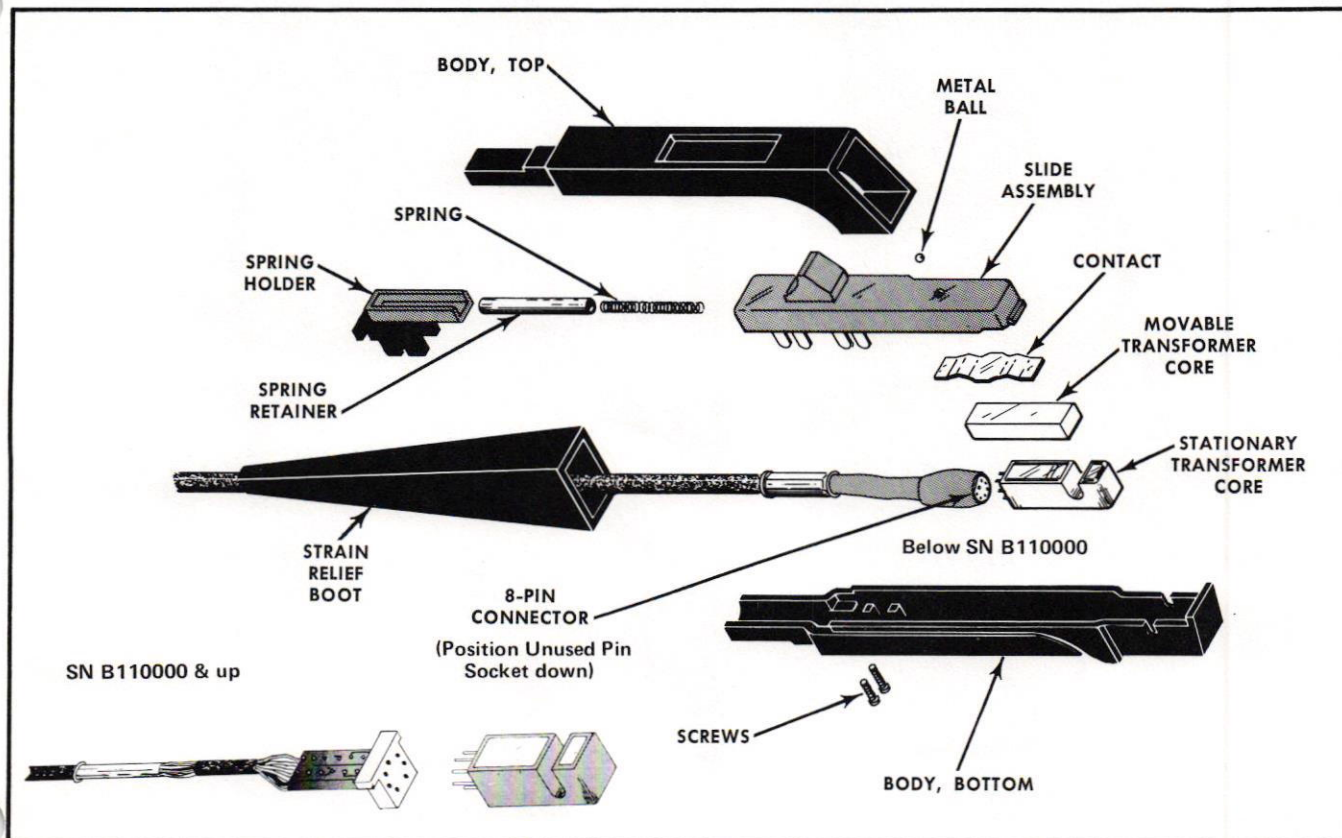

Fig. 4-1. Disassembled P6042 Probe.
7. Remove the spring holder from the bottom half of the probe body. When removing the stationary portion of the transformer core, note the position of the pins on the 8-pin plug. If necessary, unsolder the connections to the bottom half of the probe body. The probe is shown disassembled in Fig. 4-1.
2. Insert the pins of the stationary portion of the transformer core into the socket on the end of the cable. Care must be taken to assure that the socket is properly aligned with the core. Using Fig. 4-1 as a guide, note that the socket should be placed in relation to the core so that the empty pin socket is down (when the core is positioned so that the test lead opening is up). Place the core in position in the probe body bottom shell and replace the spring holder.